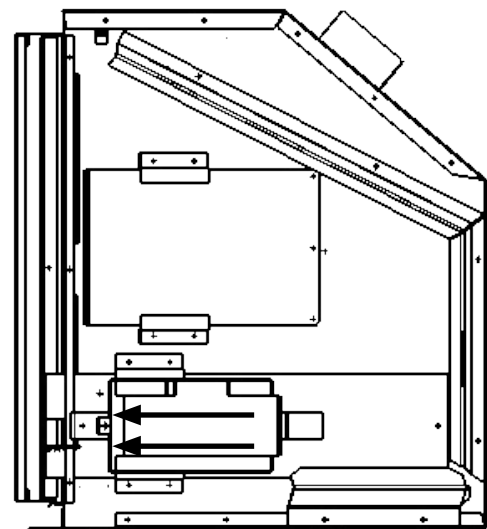

Figure 6.4.01:
2. Slide the control board forward as shown in **Figure 6.4.01**.